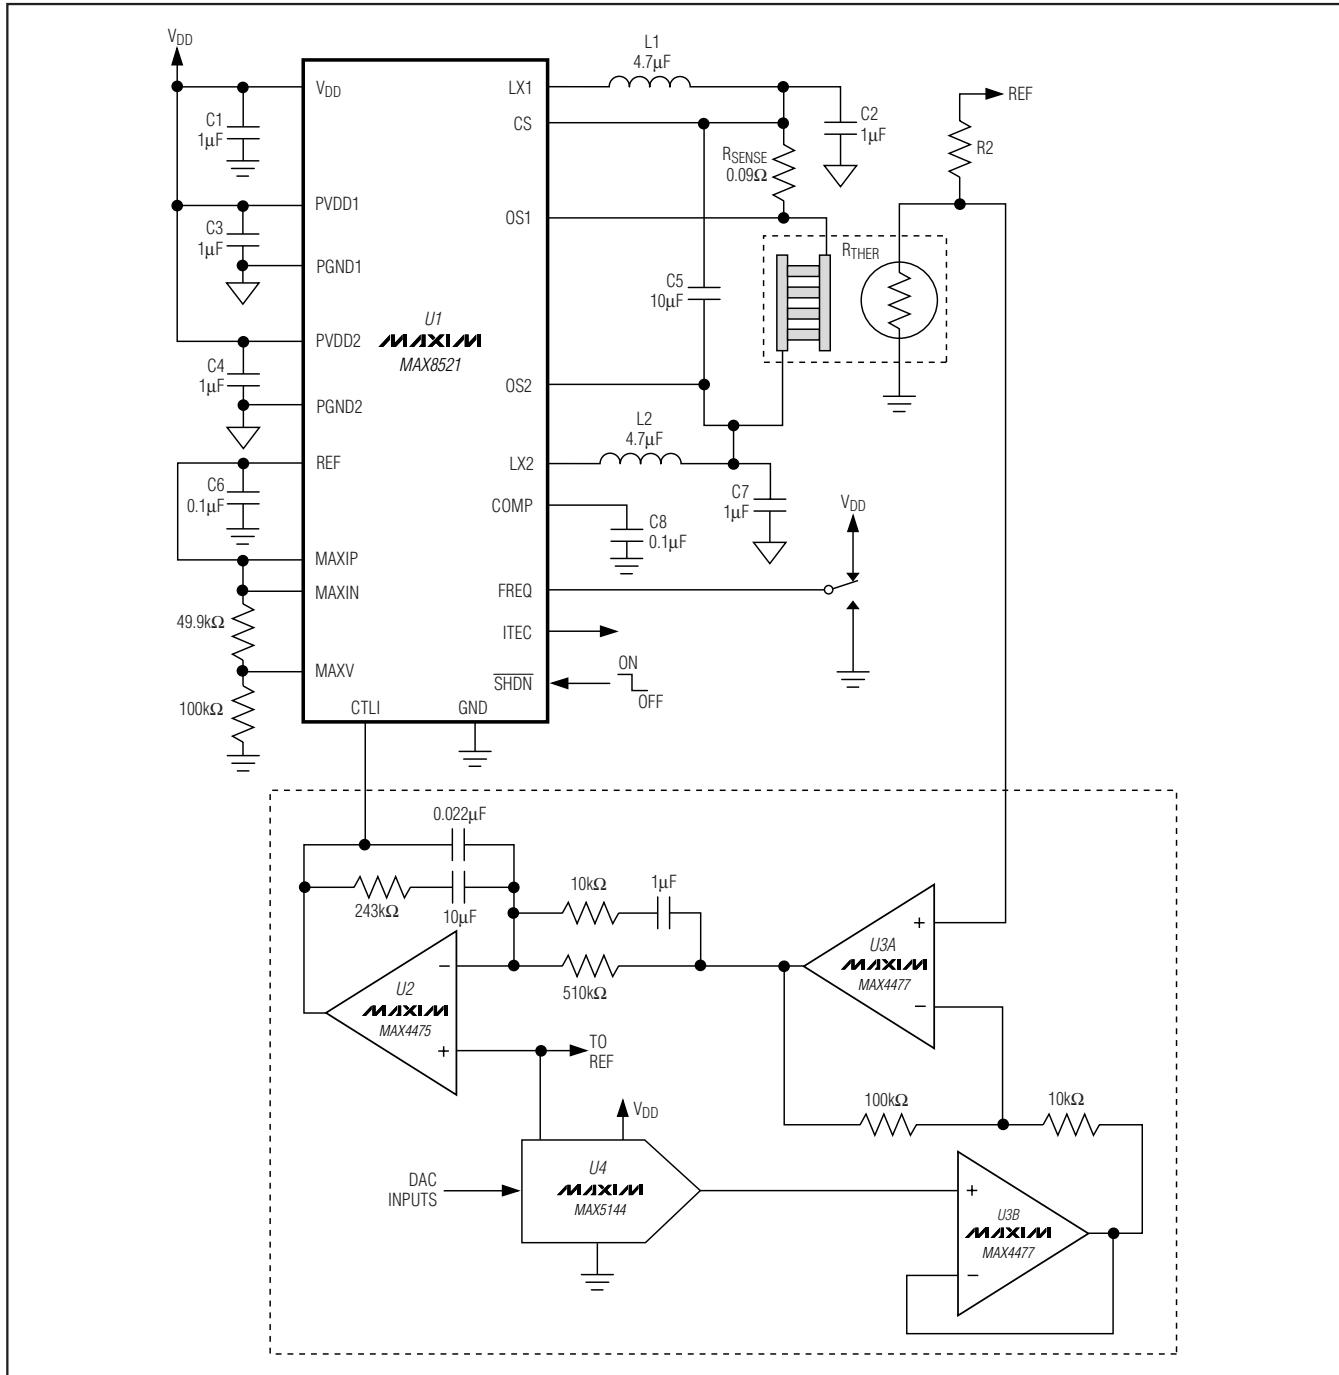

Figure 1. MAX8521 Typical Application Circuit
($V_{DD} = 5V$, circuit of Figure 1, $T_A = +25^\circ C$ unless otherwise noted.)
($V_{DD} = 5V$, circuit of Figure 1, $T_A = +25^\circ\text{C}$ unless otherwise noted.)
(V_{DD} = 5V, circuit of Figure 1, T_A = +25°C unless otherwise noted.)
The MAX8520/MAX8521 TEC drivers consist of two switching buck regulators that operate together to directly control the TEC current. This configuration creates a differential voltage across the TEC, allowing bi-directional TEC current for controlled cooling and heating. Controlled cooling and heating allow accurate TEC temperature control to within 0.01°C. The voltage at CTLI directly sets the TEC current. An external thermal-control loop is typically used to drive CTLI. Figures 1 and 2 show examples of the thermal-control-loop circuit.
Table 1. TEC Connection for Figure 1
The MAX8520/MAX8521 include an on-chip voltage reference. The 1.50V reference is accurate to 1% over temperature. Bypass REF with $0.1\mu\text{F}$ to GND. REF can be used to bias an external thermistor for temperature sensing as shown in Figures 1 and 2.
The common-mode filter capacitors (\$C_2\$ and \$C_7\$ of Figure 1) are used as filter capacitors to ground for each output. The output ripple voltage depends on the capacitance, the ESR of these capacitors, and the inductor ripple current. Ceramic capacitors are recommended for their low ESR and impedance at high frequency.
The differential-mode filter capacitor (C5 in Figure 1) is used to bypass differential ripple current through the TEC as the result of unequal duty cycle of each output. This happens when the TEC current is not at zero. As TEC current increases from zero, both outputs move away from the 50% duty-cycle point complementarily. The common-mode ripple decreases, but the differential ripple does not cancel perfectly, and there will be a resulting differential ripple. The maximum value happens when one output is at 75% duty cycle and the other is at 25% duty cycle. At this operating point, the differential ripple is equal to 1/2 of the maximum common-mode ripple. The TEC ripple current determines the TEC performance, because the maximum temperature differential that can be created between the terminals of the TEC depends on the ratio of ripple current and DC current. The lower the ripple current, the closer to the ideal maximum. The differential-mode capacitor provides a low-impedance path for the ripple current to flow, so that the TEC ripple current is greatly reduced. The TEC ripple current then can be calculated as follows:
There are numerous ways to implement the thermal loop. Figures 1 and 2 show designs that employ precision op amps, along with a DAC or potentiometer to set the control temperature. The loop can also be implemented digitally, using a precision A/D to read the thermistor or other temperature sensor, a microcontroller to implement the control algorithm, and a DAC (or filtered-PWM signal) to send the appropriate signal to the MAX8520/MAX8521 CTLI input. Regardless of the form taken by the thermal-control circuitry, all designs are similar in that they read temperature, compare it to a set-point signal, and then send an error-correcting signal to the MAX8520/MAX8521 that moves the temperature in the appropriate direction.
6) To ensure high DC-loop gain and minimum loop error, keep the board layout adjacent to the negative input pin of the integrator (U2 in Figure1) clean and free of moisture. Any contamination or leakage current into this node can act to lower the DC gain of the integrator which can degrade the accuracy of the thermal loop. If space is available, it can also be helpful to surround the negative input node of the integrator with a grounded guard ring.